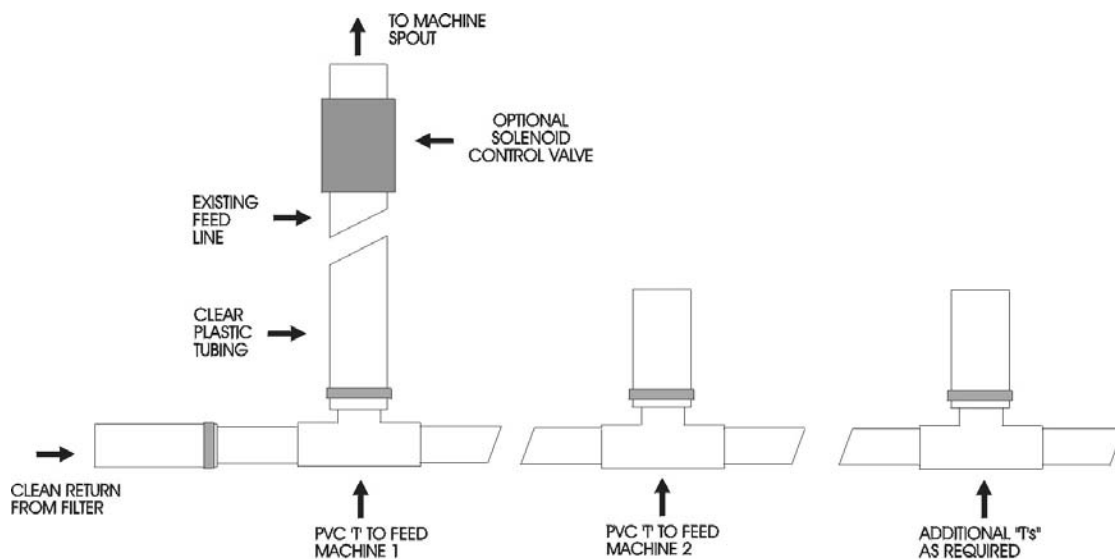

FIGURE 2
2. Connect the clean return line to your existing feed line or install a new line using PVC or other suitable material. The feed line should be at least 3/4" diameter. See figure 2 for sample manifold setup.